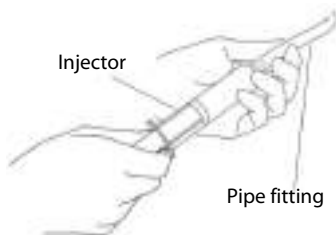

Figure 5-4 Use injector to clean the pipe fitting
5. Use an injector to inject the cleanser into the pipe fitting, and thoroughly wash the pipe fitting to clean its inside surface. As shown in Figure 5-4.
4. Install the injector on the pipe fitting, and use the disinfectant solution to thoroughly wash the pipe fitting to clean its interior. As shown in Figure 5-4.
5. Install the injector on the pipe fitting, and inject air to eliminate water inside the pipe fitting. As shown in Figure 5-4.